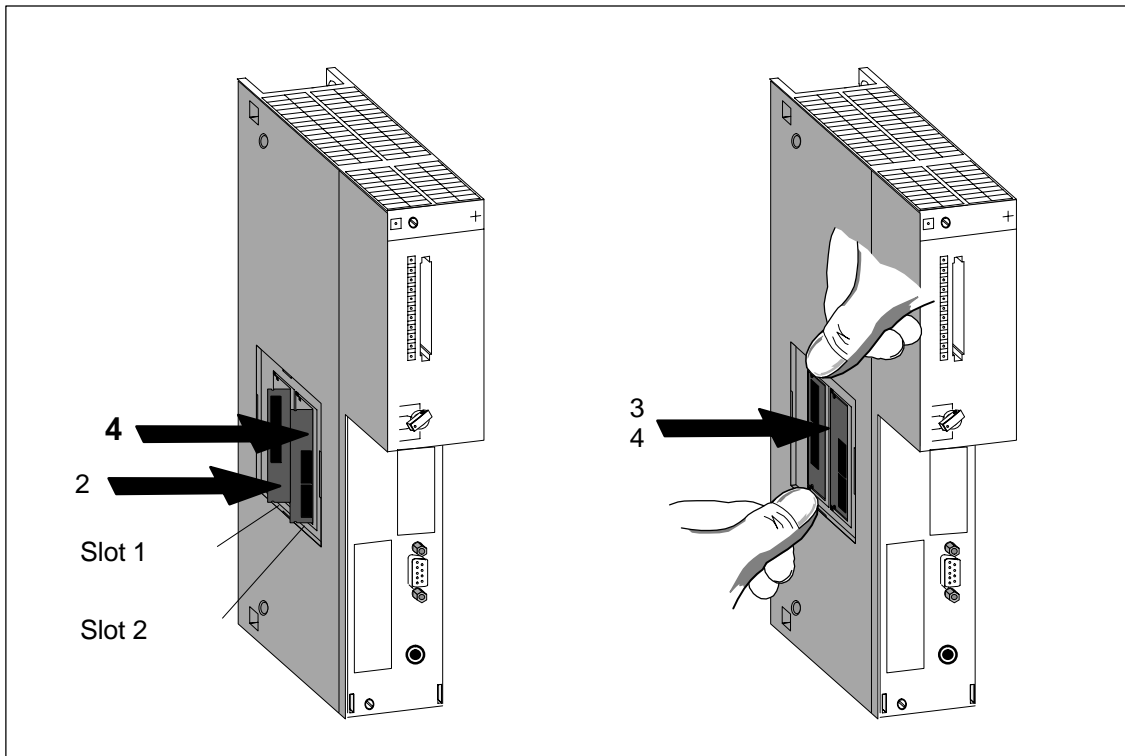

Figure 8-1 Fitting Memory Cards in the CPUs
2. Insert the first DRAM memory card of the required size at an angle of about 45° into Slot 1 as far as it will go (see Figure 8-1).
3. Press the protruding side of the DRAM memory card toward the PCB until the memory card engages with the two lateral retaining springs (see Figure 8-1).
4. Insert the second DRAM memory card of the same size in the same way into Slot 2 (see Figure 8-1).